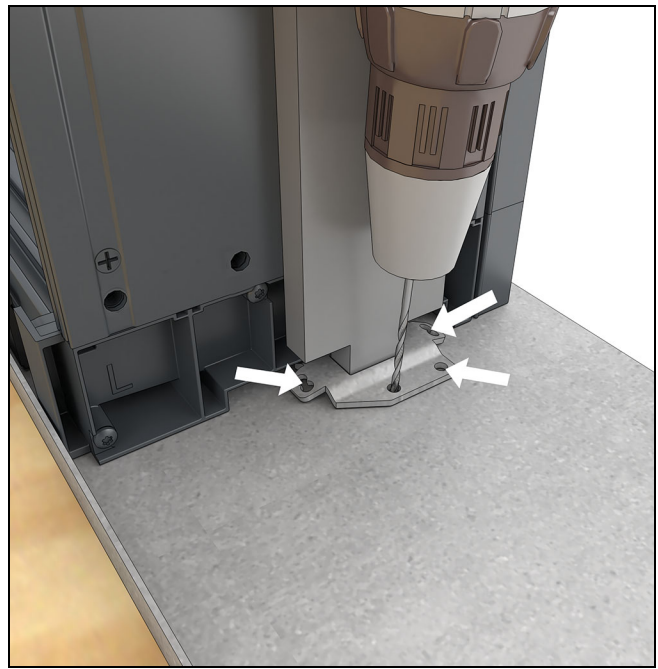

Figure 17
5. Predrill, and fasten the bracket using #10-12 3" T20 Torx pan head 2/3 thread screws or similar depending on the sill material. See Figure 17.